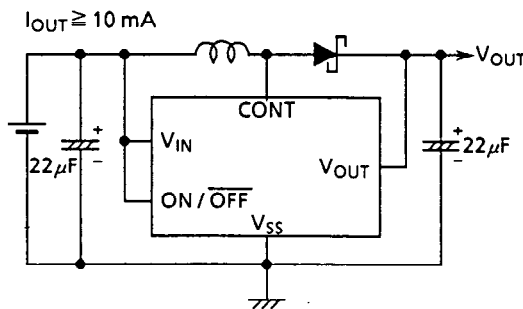
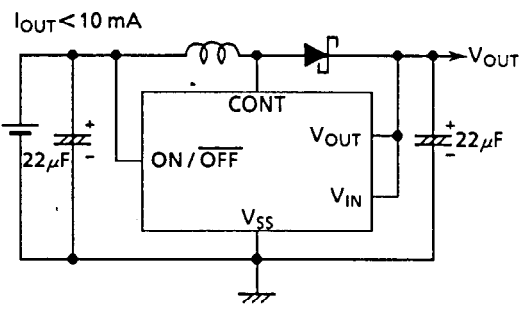

Figure 12
Figure 13
The difference between Figures 12 and 13 is a  $V_{IN}$  connection. The connection to be used depends on the purpose. The connection shown in Figure 12 is suitable for high output current ( $\geq 10 \text{ mA}$ ). The connection shown in Figure 13 is suitable for low output current ( $I_{OUT} < 10 \text{ mA}$ ) because minimum operating supply voltages is reduced. (See the supply voltage-output voltage characteristics on the next page. Use RCH855-47  $\mu\text{H}$  manufactured by Sumida Electric for the coils and D1NS4 for the external diode.)
$V_{IN} \neq V_{OUT}$  (in the circuit shown in Figure 12)
$V_{IN} = V_{OUT}$  (in the circuit shown in Figure 13)
- Do not apply a supply voltage of less than 0.9 V at  $V_{\text{IN}}$  in the standard circuit shown in Figure 12. If a voltage of less than that is applied, the input current may increase rapidly. The input current may increase rapidly in the application of a low supply voltage and a low load current ( $I_{\text{OUT}} = 20 \mu\text{A}$ ) when the S-8436 series is used.